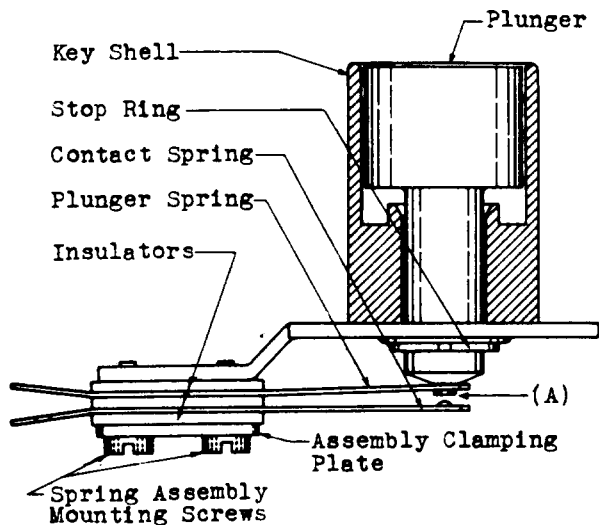

Fig. 3
***2.04 Contact Separation - Figs. 3 (A) and 4 (A)** - There shall be a separation between all open contacts of:
***2.06 Contact Follow - Figs. 3 (A) and 4 (A)**